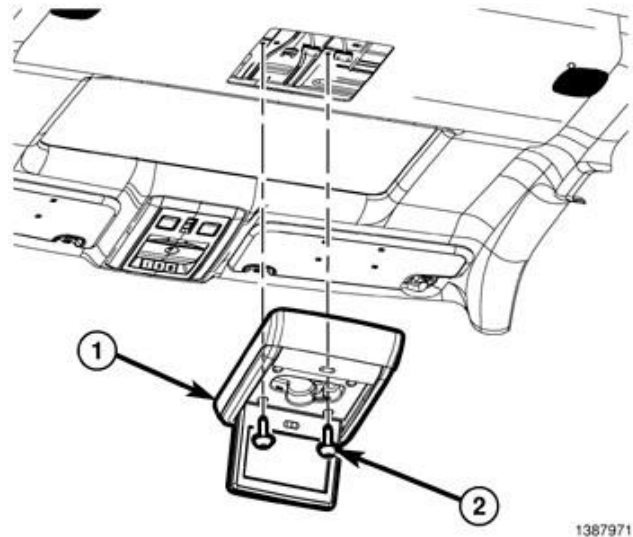
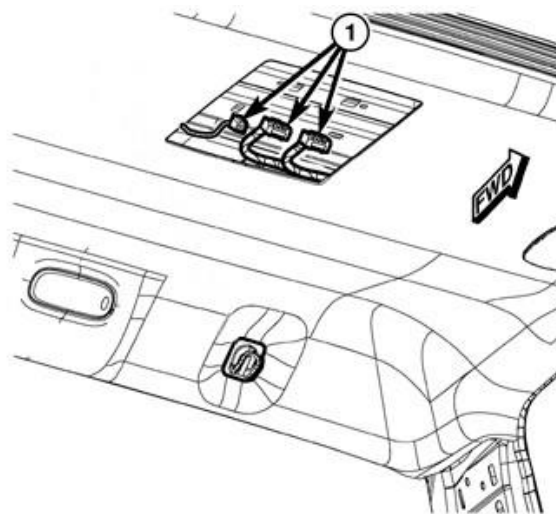

Figure 29 – Rear Seat DVD Monitor
Figure 30 – DVD Monitor Electrical Connectors
16. If equipped with DVD monitor, remove the screws (2) and separate the monitor (1) from the roof (Figure 29).
17. If equipped with DVD monitor, disconnect the electrical connectors (1) (Figure 30).
48. If equipped with DVD monitor, connect the DVD monitor electrical connectors (1) (Figure 30). Position the DVD monitor to the roof then install and tighten the screws (2) (Figure 29).